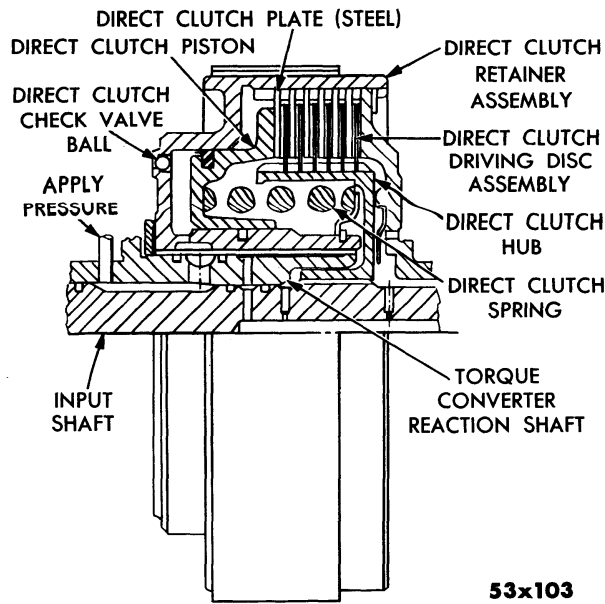

Fig. 32—Direct Clutch
k. Direct Clutch (Fig. 32)
Although no pressure is applied to the direct clutch piston in reverse or neutral, there is oil present in the direct clutch piston chamber. With the high rotative speeds of the direct clutch retainer in reverse or neutral, it is possible to build up sufficient centrifugal oil pressure to move the direct clutch piston. To eliminate the possibility of clutch drag caused by such movements, the direct clutch check valve ball (refer to Fig. 32)